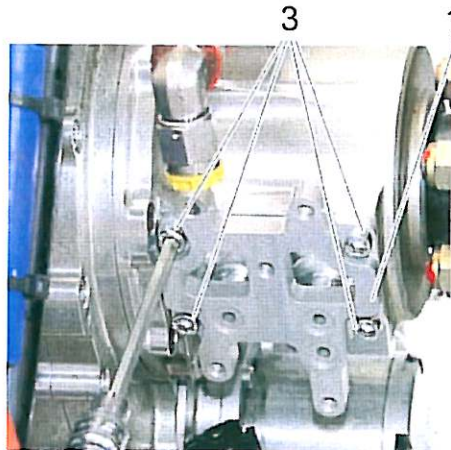

Figure 11
3. *Apply Loctite 243 to the four screws (item 3).*
4. *By using the four screws (item 3), attach the adapter plate (item 1) to the gearbox. The side that was fitted with the O-rings must face the gearbox. See Figure 11.*